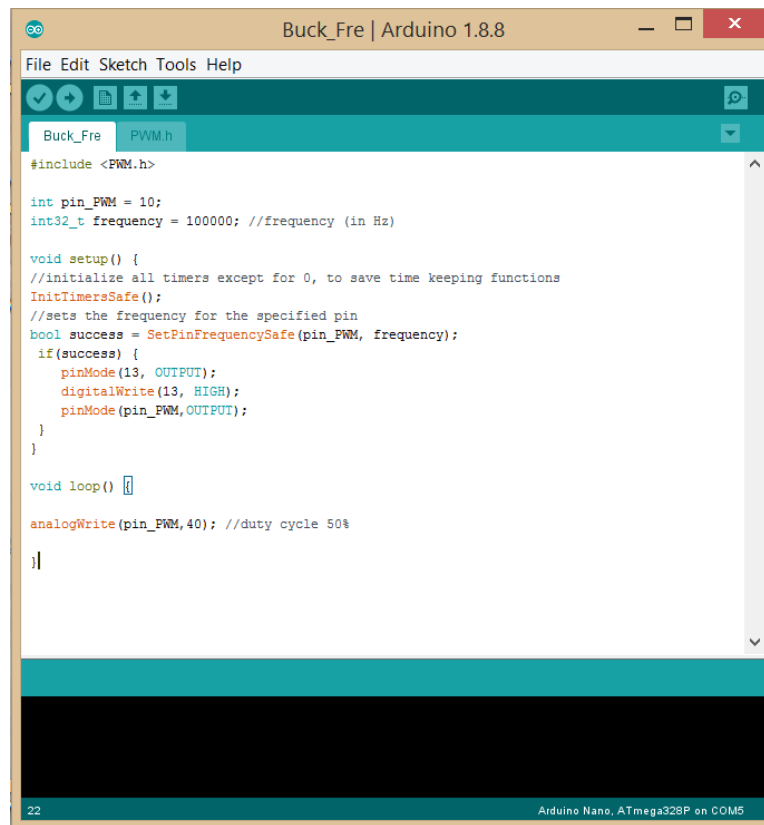

Figure 4: Arduino sample code to generate a PWM signal via pin 10 with 100kHz frequency and 50% duty cycle.
The PWM library facilitates users to change the PWM frequencies as desired. In the meantime the **analogWrite** function is no longer defaulted by the 8-bit resolution but it becomes a period dependent value. The period of frequency and analog duty cycle can be determined by equations (1) and (2). The system clock frequency  $f_{clk}$  of the ATmega328P is 16MHz, the prescaler  $N$  is 1, and  $d$  is the duty cycle. A sample code can be found in the Laboratory Exercises folder, and the code is shown in Fig. 4. A 100kHz frequency is set for Pin 10. And based on equation (1), you should be able to calculate the period counter (OCR1x where x = A is for Pin 9 and x = B is for Pin 10) of the frequency. The duty cycle value for **analogWrite** can be calculated based on equation (2).